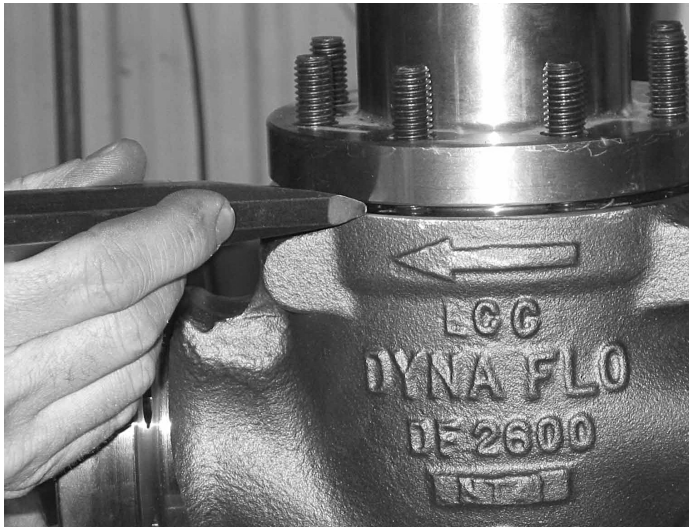

Figure 5 Body being separated with a chisel
- 1 Remove the packing nuts (Key 14) and loosen the bonnet nuts (Key 35) a few millimeters. The bonnet may need to be rocked loose or loosened from the body by prying at the bonnet-to-body joint (See Figure 5). Take care not to damage the gasket-sealing surface when separating the bonnet. If no process medium leaks from the bonnet-to-body joint removal of the bonnet nuts (Key 35) can proceed.